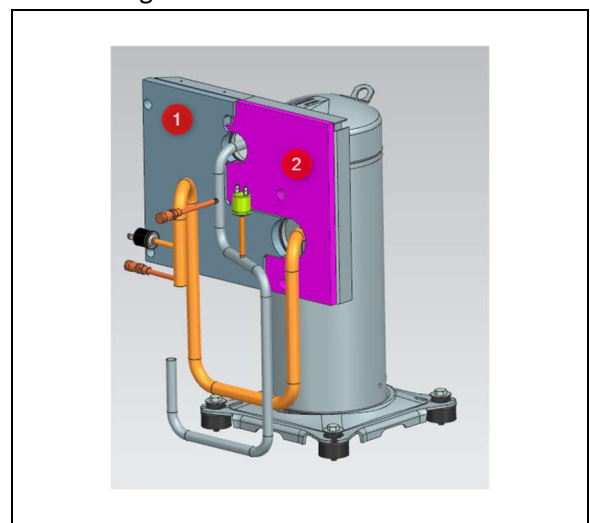

Figure 10. Encapsulation panels #1 and #2 reassembly
- 10) Re-assemble encapsulation panels #1 and #2. See figure 10.